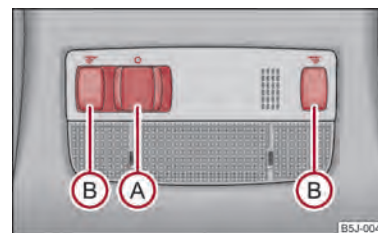

Fig. 27 Interior lighting - version 1 ▶
- Press the switch (A) in the direction of the centre of the light, the symbol ☞ ⇒ fig. 27 appears.
- Press on one of the switches (B) ⇒ fig. 27 in order to switch the right or left reading light on or off.